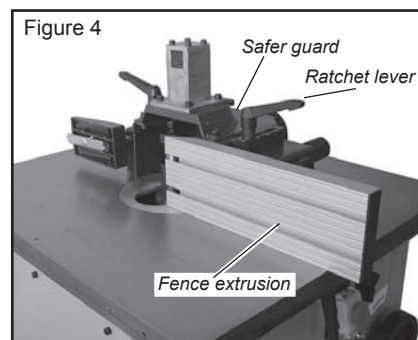

Figure 4
2. Insert the ratchet lever M8x150 with a 8mm large washer into the safer guard as shown in **Figure 4**, and thread the ratchet lever clockwise to secure to the table.